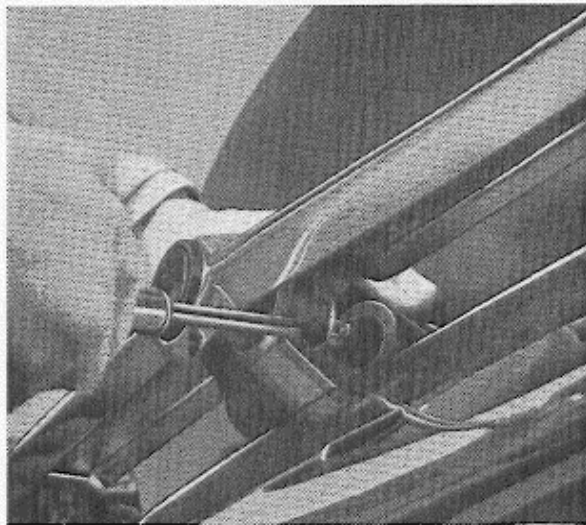

Fig. 19.
1. Remove the rubber sleeve and then push the unit with bulb forwards by using a screwdriver as shown in fig. 19.